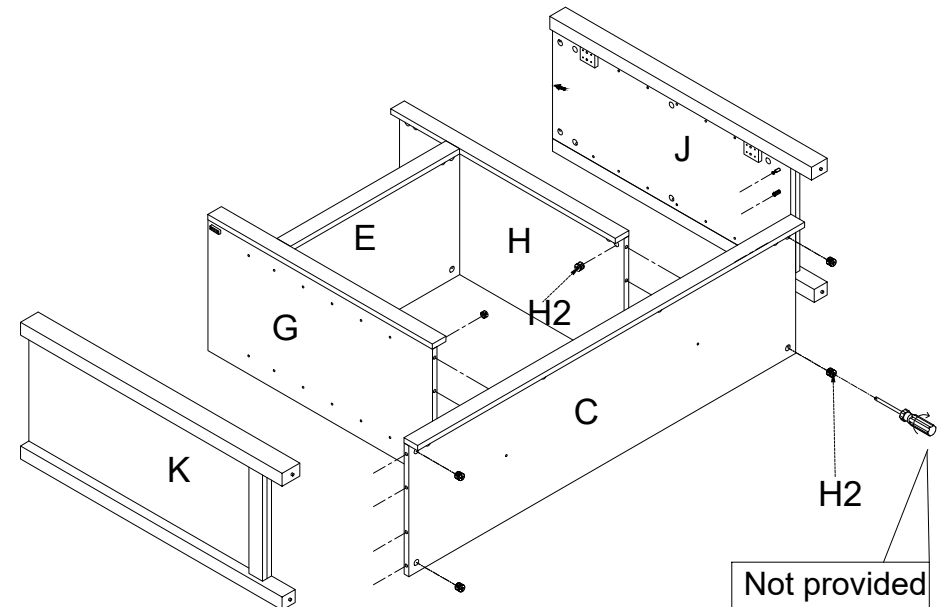

Figure 9
With assistance from another adult, place Left side panel (K) on edge as shown in figure 9. Place Base (C) on the edge with the Base rail (D) on the top. Align the Cam bolts (H1) and Short wood dowels (H3) in Left side panel (K) with the corresponding holes in Base (C) and slide into place. Secure the Left side panel (K) to Base (C) with Cam Lock (H2) using screwdriver (Not provided). Repeat this process for the Right side panel (J) as shown in figure 9. Align the holes in Left partition (G) and Right partition (H) with the Cam bolts (H1) and Short wood dowels (H3) in Base (C) and slide into place as shown in figure 9. Secure the Left partition (J) and Right partition (H) to Base (C) with Cam lock (H2) using screwdriver (Not provided).